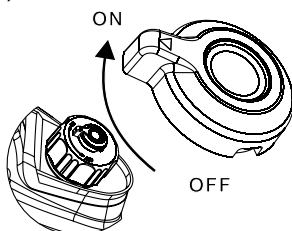

Figure 6: fuel tank vent
4. Turn ventilation knob of fuel tank cap to “ON” (see Figure 6).